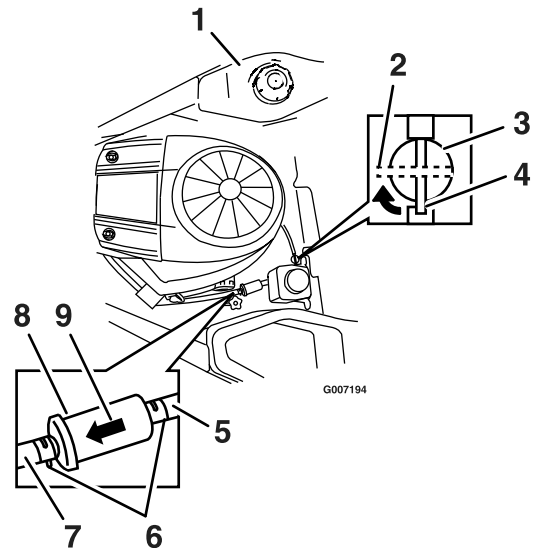

Figure 27
5. Squeeze the ends of the hose clamps together and slide them away from the filter (Figure 27).
7. Install a new filter with the flow direction arrow coming from the fuel tank and pointing to the engine. Move the hose clamps close to the filter (Figure 27) to secure it in place.